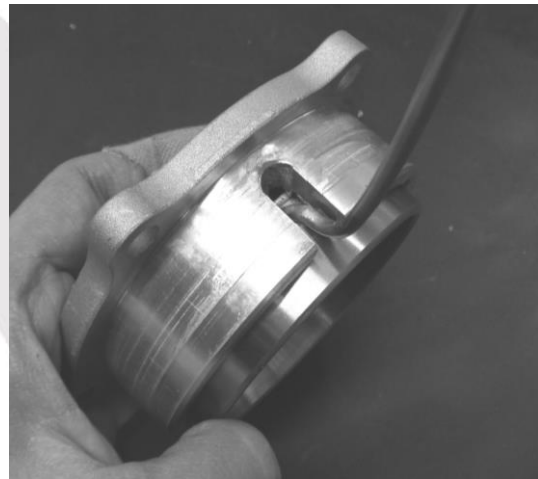

Figure 11.
- On the ring gear side, insert the seal housing first, bending its tube down then vertically upwards from the slotted hole (Fig 11.), add shim pack 'F', and finally apply retaining compound around the bearing cup, and press it all the way into the housing.